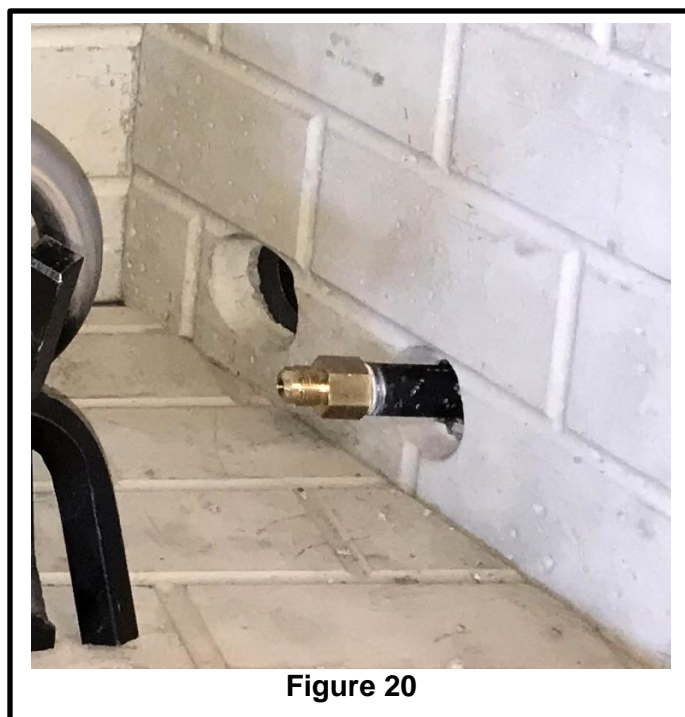

Figure 20
5. In Figure 20 below, the gas supply stub is shown properly fitted with the adapter.